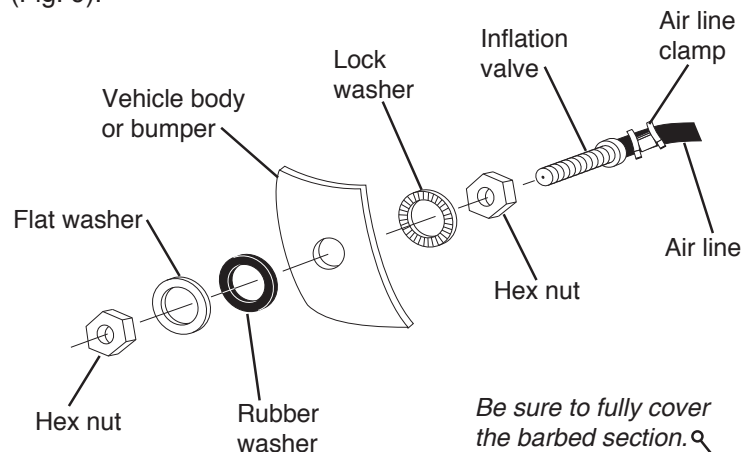

fig. 8
- Drill a 5/16" hole for the inflation valve and mount as shown (Fig. 8). The rubber washer serves as an outside weather seal.
7. Drill 5/16 " hole for inflating valves and mount as illustrated. Rubber washer is for outside weather seal (see Fig. 8).